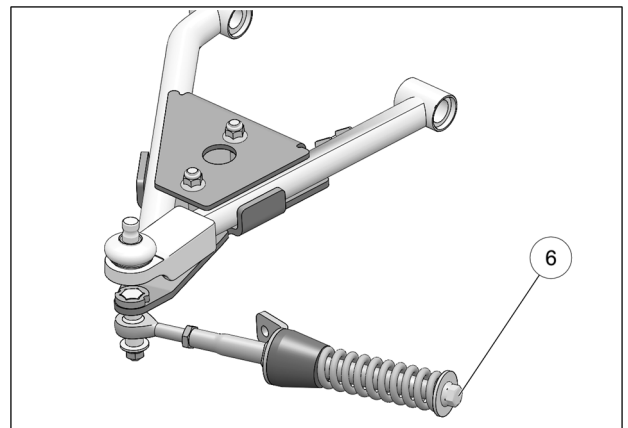

Fig. 20
9. Verify that spring assembly bolt (6) is tightened to the recommended torque specification: 75 N•m [55 lb•ft]. Refer to Fig. 20